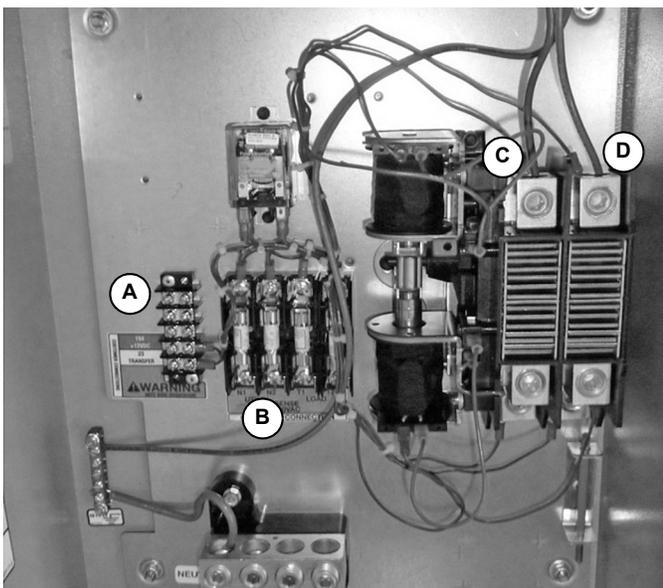

Figure 2-7.
12. Connect the earth ground (green/yellow, B) to the ground strip (A) provided (Figure 2-7).
13. Connect the active (Hot) brown wire (C) to the left top terminal contact of the transfer mechanism and connect the neutral blue wire (D) to the top right terminal contact of the transfer mechanism (Figure 2-7).